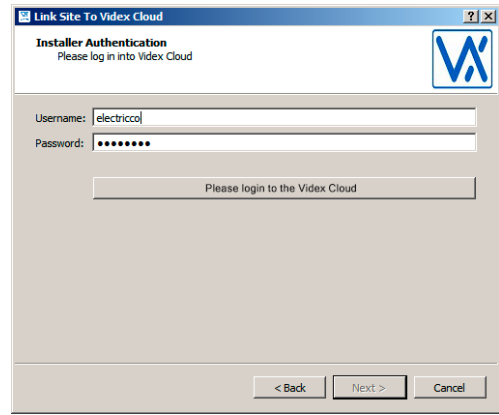

Fig. 33 Login Videx Cloud
- Enter the same username and password used for <https://www.videx-service.it/> web site then click "login videx cloud" (Fig. 33).